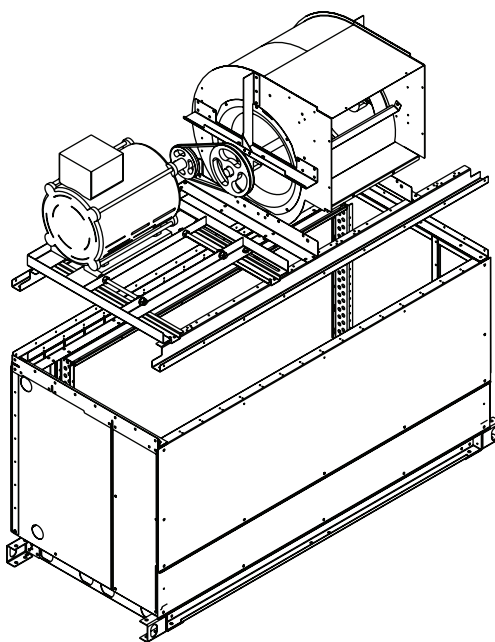

Fig. 58 — Remove Fan
3. Remove the fan by removing the 4 screws on the corner of the fan sled. On larger units the fan sled may be extremely heavy. Affix appropriate rigging to remove the required components, noting on a diagram where each component is attached. See Fig. 58.